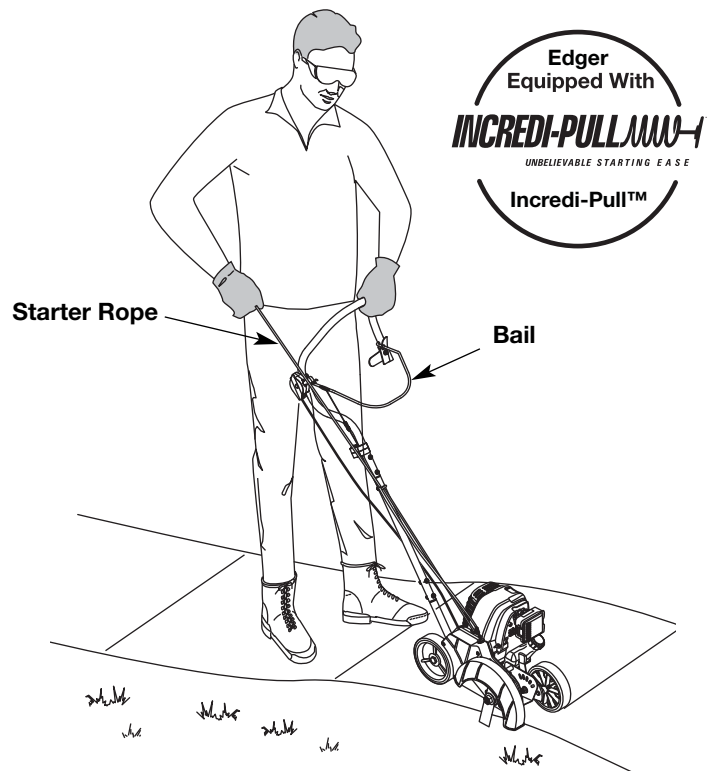
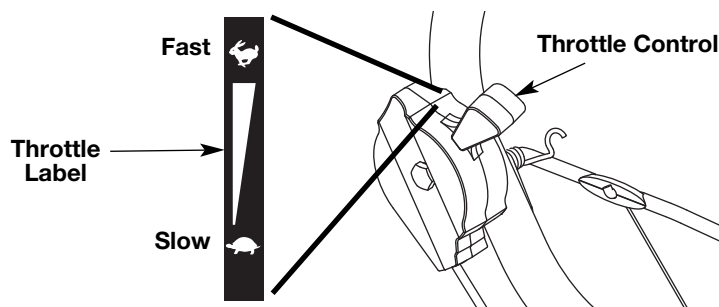

Fig. 14
Fig. 15
WARNING: Avoid accidental starting. Make sure you are in the starting position when pulling the starter rope (Fig. 14). To avoid serious injury, the operator and unit must be in a stable position while starting.
4. Stand in the starting position (Fig. 14) and make sure the throttle control (Fig. 15) is in the SLOW (🐢) position.
NOTE: Do not engage the bail while pulling the starter rope (Fig. 14) or the unit will not start.